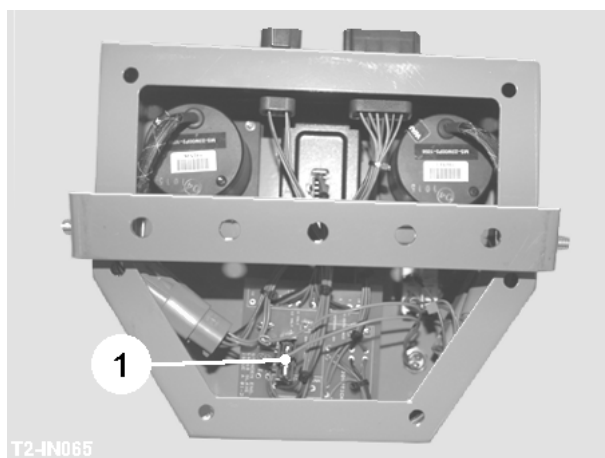

Fig 51
The feed to the slave box and service terminal is protected by the 2Amp fuse (item 1, fig 51) inside the slave box.